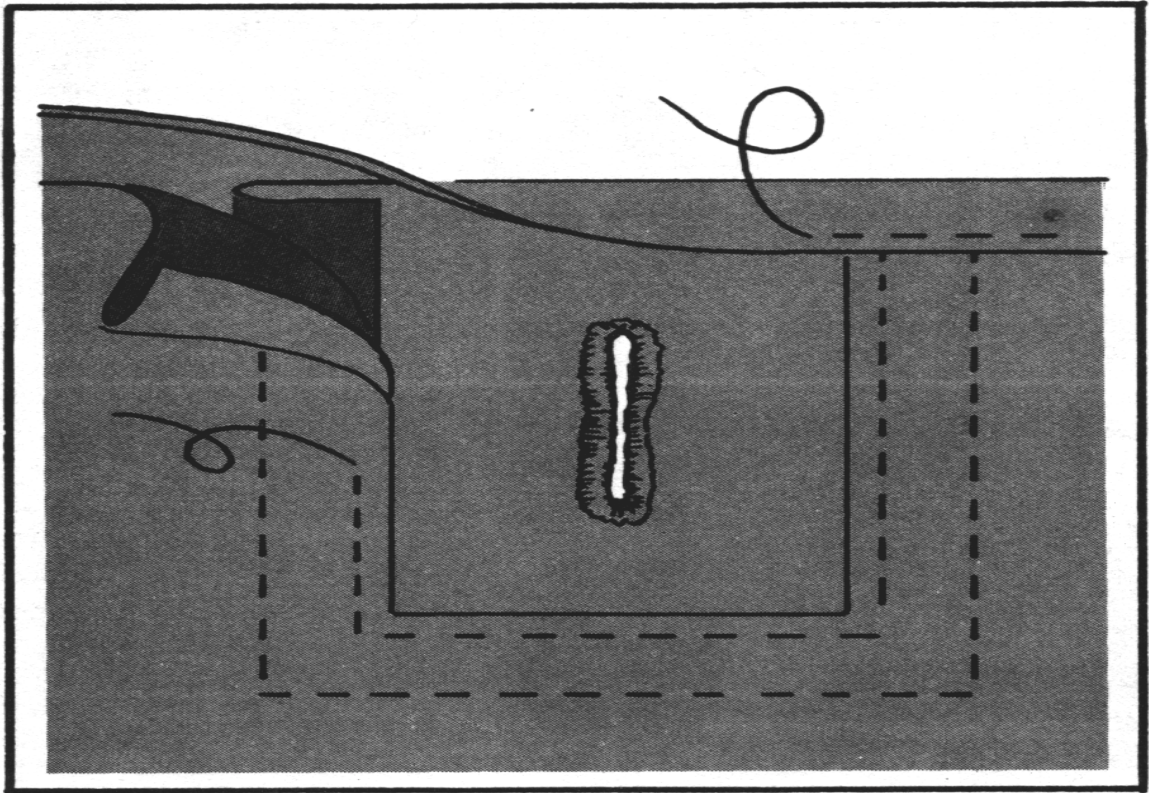

Figure 9-18. Felled patch method
a. Felled Patch Method. To make a buttonhole using the felled patch method (Figure 9-18)--
- (1) Cut a patch from matching canvas. If possible, use a salvaged piece of canvas that has a buttonhole in it.
- (2) Follow the directions on page 9-4 to apply a felled canvas top patch, but finish the edge of the opening with a binding.
- (3) If the patch does not have a buttonhole, make one by cutting a slit as long as the original buttonhole. Reinforce the raw edges by stitching around the slit using the buttonhole stitch.